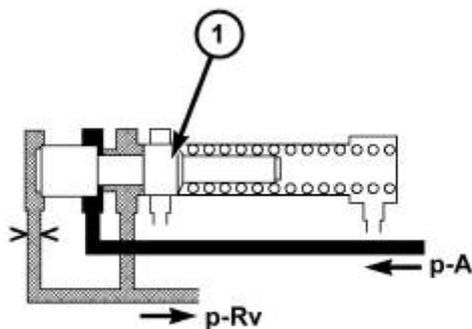

Fig. 228: Regulating Valve Pressure Regulating Valve
The regulating valve pressure regulating valve (1) is located in the valve housing of the electrohydraulic control module. Refer to **Fig. 228**. It regulates the regulating valve/control valve pressure (p-RV).